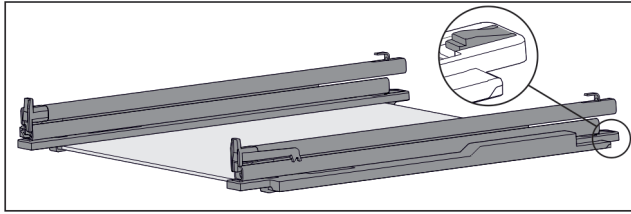

Fig. 109 Glass shelf with rails and retaining parts
- ▶ Press down retaining part at the rear (see Fig. 109) and at the same time push the rail back.